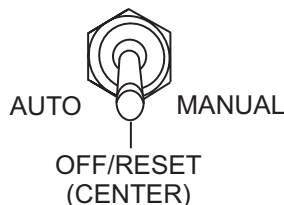

Figure 57. Auto Off/Reset Manual Switch (Off/Reset)
3. Place the **Auto Off/Reset Manual Switch** (Figure 57) in the **OFF/RESET** position.